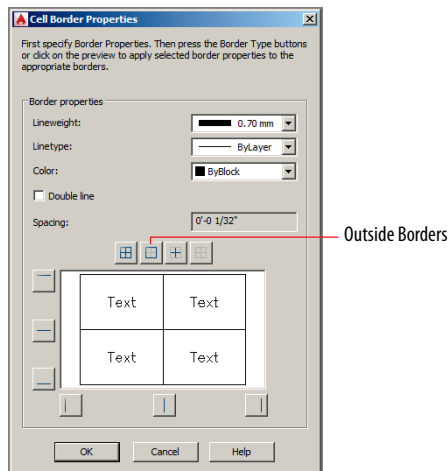

FIGURE 15.31 Changing cell border properties
12. Select cell ABC1, hold Shift, and select cell C6 to activate all the table's cells. Click the Edit Borders icon in the Cell Styles panel. Open the Lineweight drop-down menu, and select 0.70 mm. Click the Outside Borders button to apply the properties and click OK (see Figure 15.31). A thicker line will appear around the outside borders of the table when the layout is plotted. Click outside the table to deselect it.